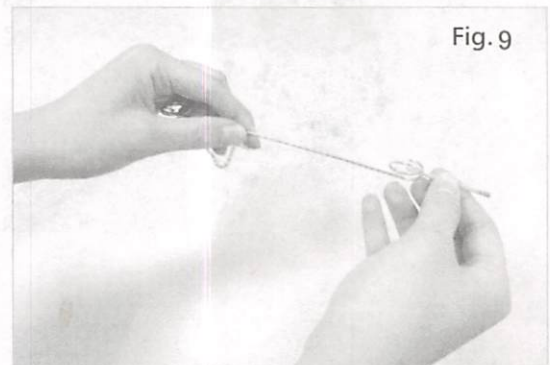

Fig. 9
- (b) Push the match into the clip of extension stick (Fig. 9)